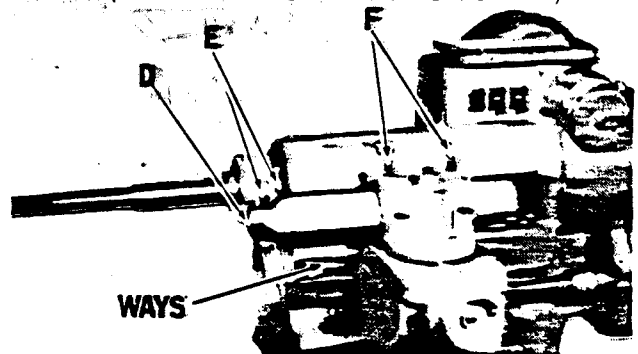

Figure 7
2. Mount the cutting tool, D Fig. 7, in the end of the tool bar and tighten cutting tool lock screws, E Fig. 7 securely.
3. Loosen tool bar lock screws, F Fig. 7 and adjust the tool bar so that enough of it extends out of the tool block to reach the inner edge of the drum when the carriage is approximately at the front of the ways. Do not, however, let it extend any further than is necessary as a short "bite" affords greater rigidity which, in turn, assures a better finish.